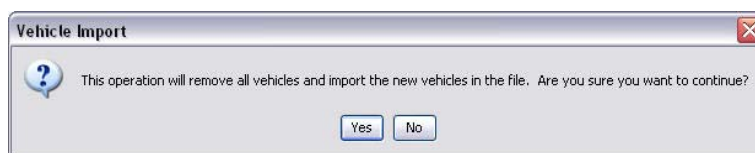

FIG. 170
2. The warning message shown in FIG. 170 pops up, notifying you that any vehicles you have already added to the group will be replaced by the vehicles in the imported file.